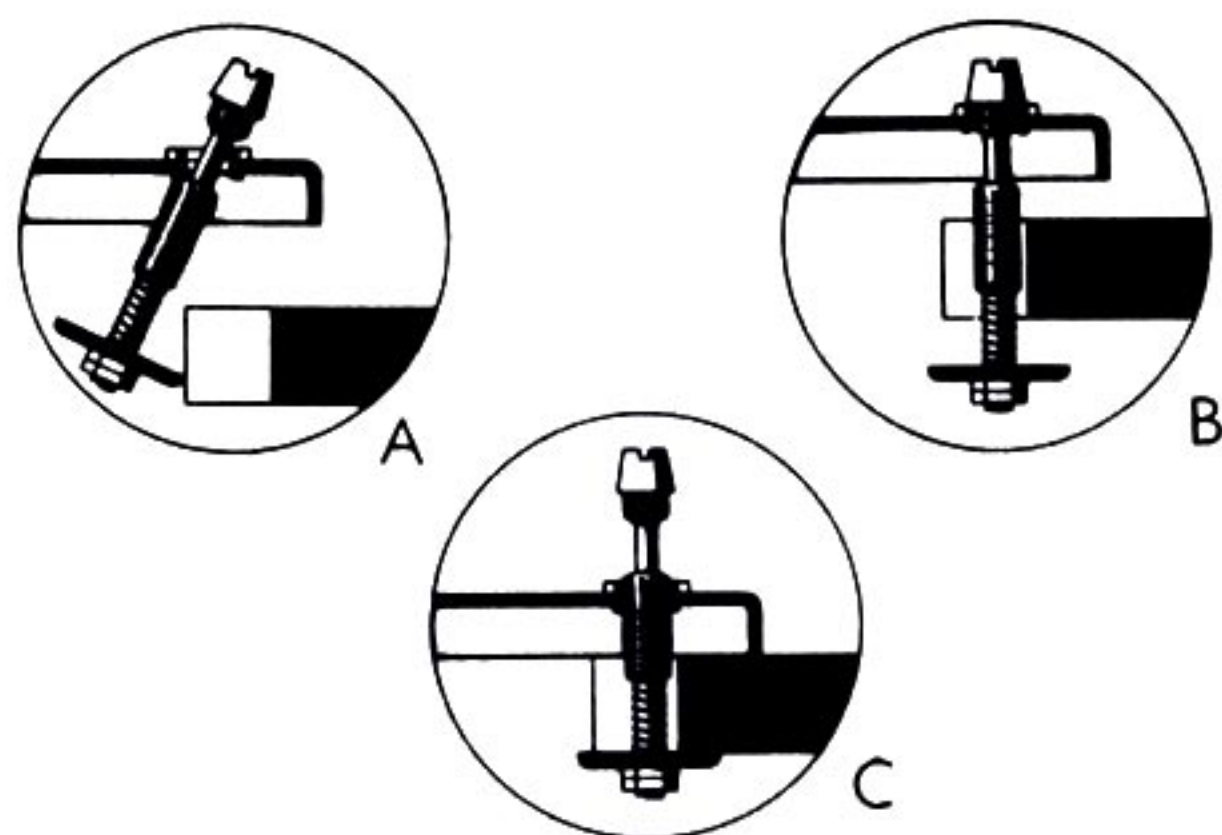

Fig. 2. 3-position mounting screw.
Each of the two mounting screws has three positions, that allow you to install, remove and secure your Dual from the top. (Fig. 2.)
4. To secure the Dual to the base for transport, loosen the mounting screws, depress the chassis against the base, then continue to turn the screws counterclockwise until they tighten the chassis to the base. (Fig. 2 C.)